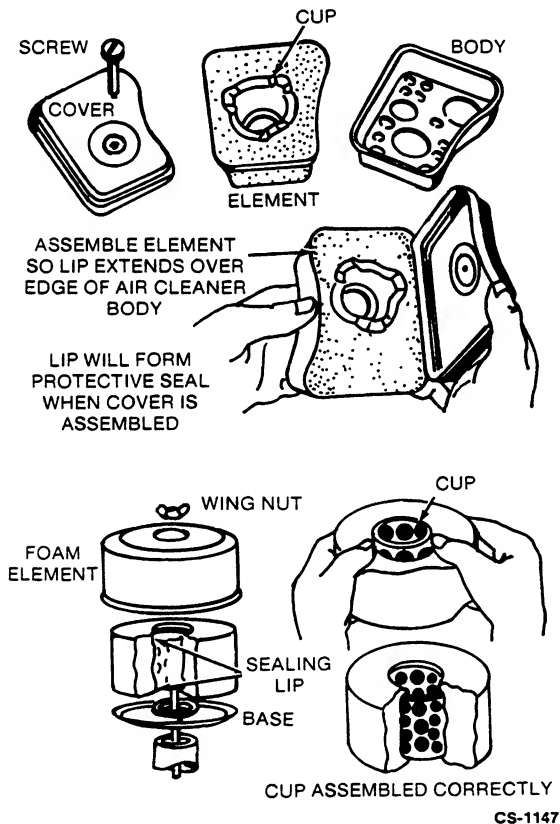

FIGURE 11. OIL FOAM AIR CLEANER
1. Remove wing nut and cover (See Figure 11).